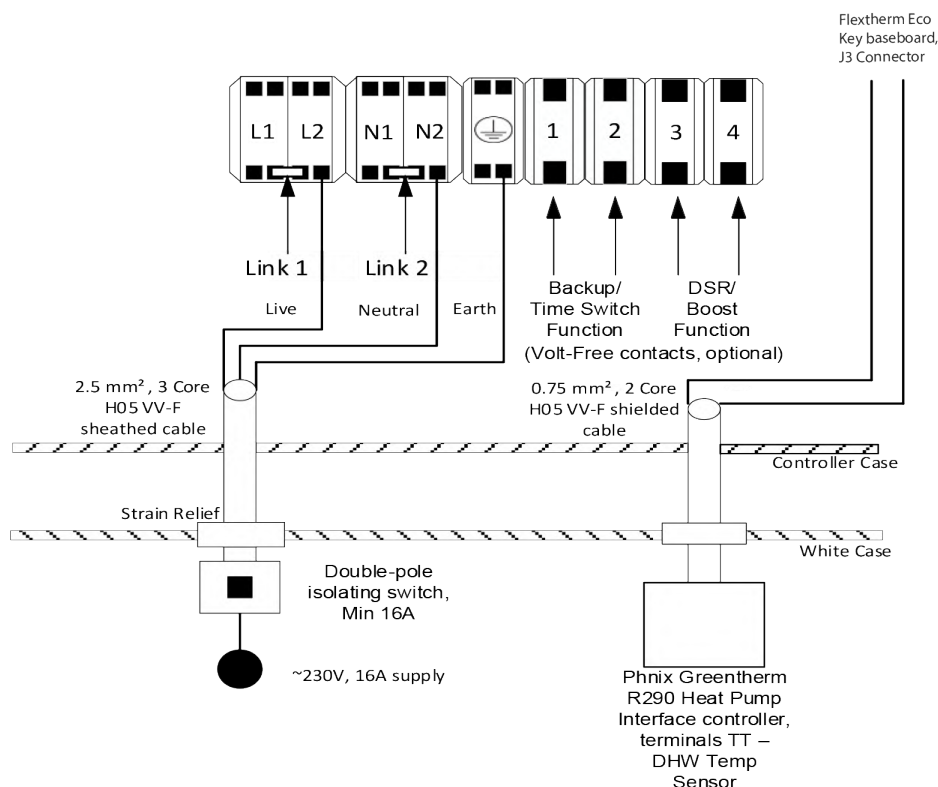

Figure 10: Flextherm Eco G2 D with Phnix HP-Key
- Flextherm Eco G2 D with the «Phnix HP-key» & «Phnix HP+PV-key» (Flextherm Eco G2 D manual - Section 6.4.2 for wiring instructions & Figures 10 & 11 below)
Using a 2-core shielded cable 0.75mm², the cable will act as a hot water heating tank sensor from the Flextherm Eco Board - terminal J3 into the Heat Pump Interface controller PCB Terminal - (TT- DHW Temp Sensor) (please refer to HP installation manual). Please run the wire into the heat battery appliance via the appliance case cabling grommets and then into the control box housing through the hole available. Secure the cables in terminals J3 on the Flextherm Eco G2 board please see figure 10 & 11 below for references.